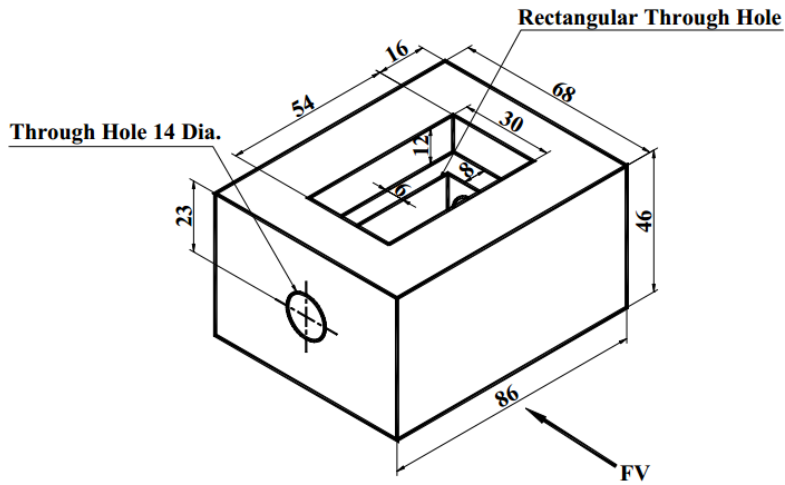

Figure P6.1
1. Draw orthographic views of the objects shown in **Figure P6.1** with full sectional front view.
- Draw orthographic views of the objects shown in **Figure P6.1** with full sectional side view.